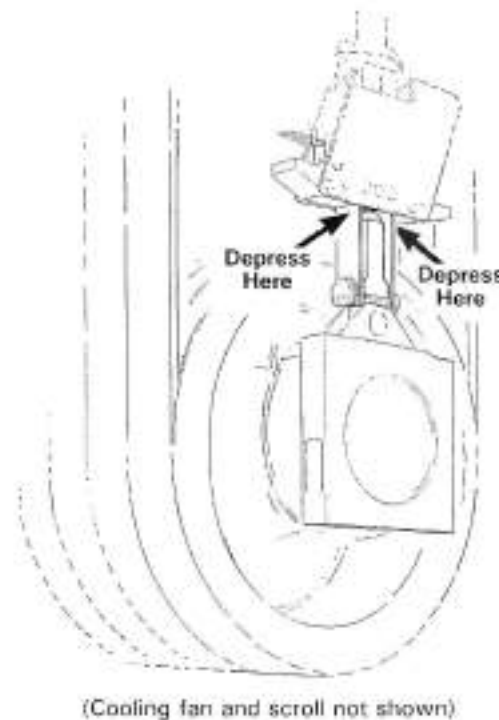

FIGURE 2-6A ACTUATOR SWITCH TEST
- a. Refer to Figure 2-6A. With MASTER switch on and actuator fully engaged, depress column springs on one side of actuator until springs snap inward (use large screwdriver or similar tool with several layers of tape over end to protect actuator). Hold springs inward for at least one second. Actuator motor should not run. If motor starts, allow motor to run approximately two seconds, then release pressure on column springs. Depress and hold column springs again. If motor starts again, opposite spring switch does not function properly. _____
7. Open Cowling Doors (7A), Remove Tailcone Cowling (7B) & Mast Fairing (9) (cont'd)